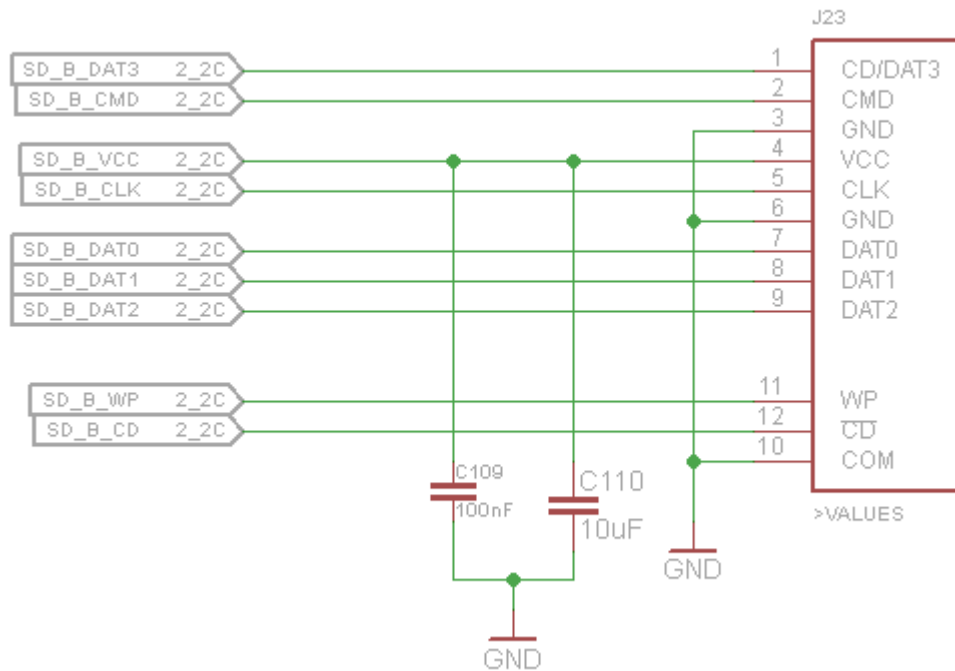

Figure 8: SD Card Interface
- Figure 8: SD Card Interface 25